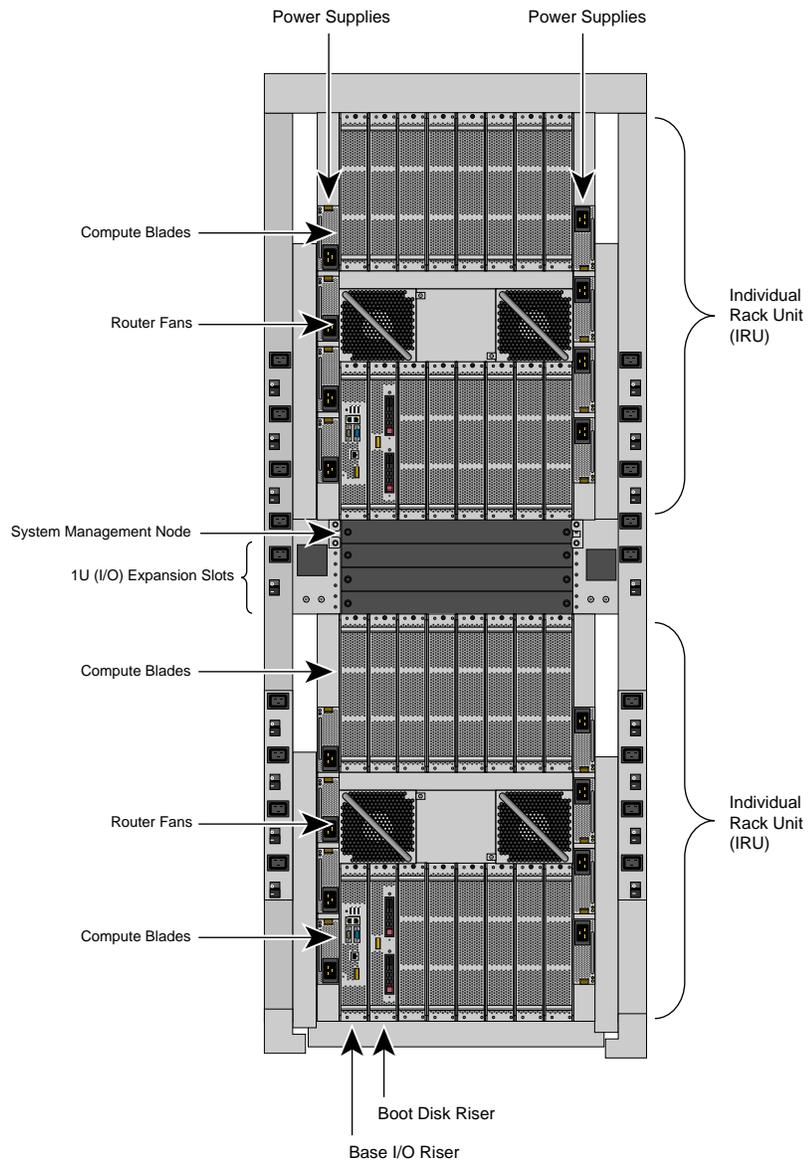
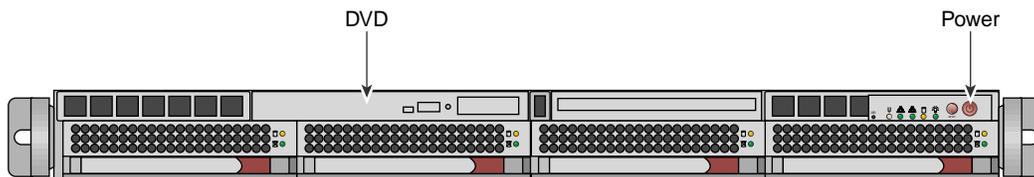

Figure 1-7 SGI UV 1000 System Rack
Figure 1-8 System Management Node Power On Button and DVD Drive
The system management node (SMN) is either located in the top 1U slot between the individual rack units (IRUs) or at the top of the rack as shown in Figure 1-7 on page 14. Figure 1-8 on page 15 shows an image of an SMN.
1. Turn on, reset, or reboot the SMN. The power on button is on the right of the SMN, as shown in Figure 1-8 on page 15.
2. Insert the SLES 11 Service Pack 1 DVD in the DVD drive on the left of the SMN as shown in Figure 1-8 on page 15.